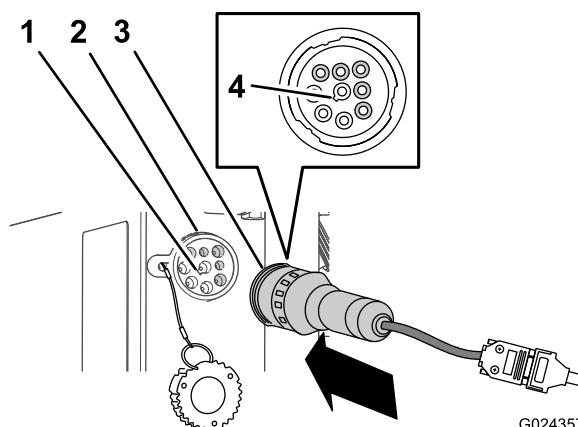

Figure 7
- A. Align the pin notch on the diagnostic-port to the pin notch on the adapter-harness plug (Figure 7).
- B. Firmly insert the plug into the port (Figure 7).